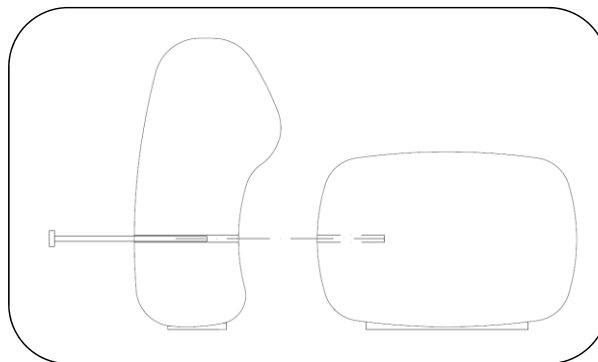

Fig. 2– Install backrest
2. Install bolt as shown in Fig. 2.